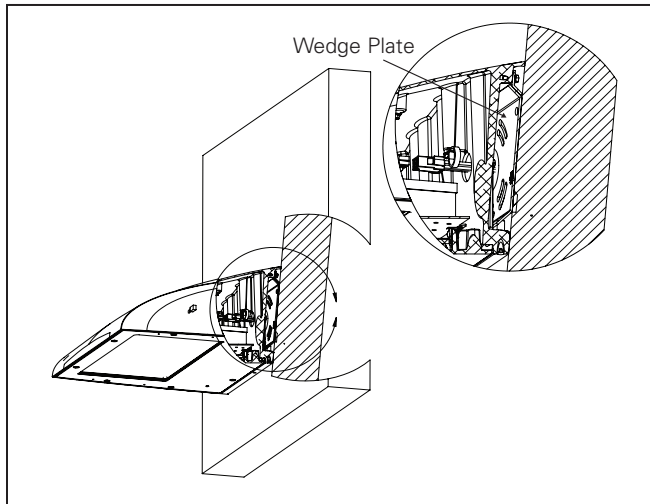

Figure 5.
- Tighten the two set screws on the fixture to 20 in-lbs. (Figure 5).
5. Hang the top housing onto the wedge plate and tighten the two set screws to 20 in-lbs (Figure 5).